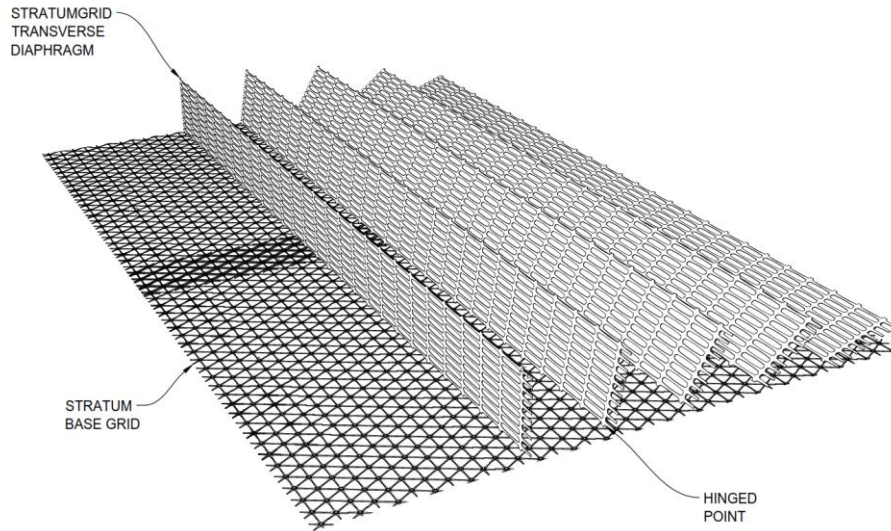
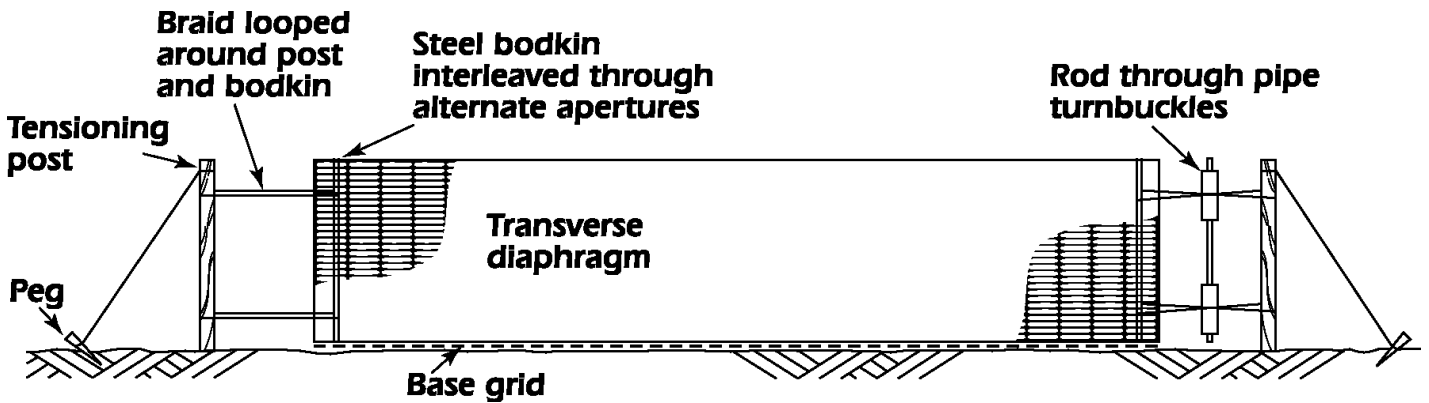

Figure 3
Figure 4
4. Raise a transverse diaphragm to a vertical position by rotating around the hinged connections (Figure 3), anchor at one end to a suitable fixed point and tension from the other (Figure 4). The maximum length normally tensioned is 100ft (30m) and intermediate tensioning posts will be required for longer lengths.
Tension is applied by using simple turnbuckles formed by passing a 12 in. (300mm) length of pipe through the loops of braid connecting the transverse diaphragms to the posts (Figure 4).